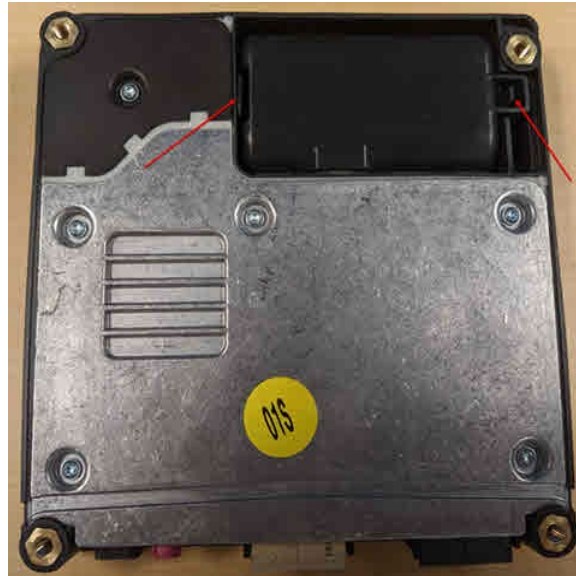

Figure 2. Backup battery compartment location.
2. Open the battery compartment of the telematics control module, J949 (address word 0075), and disconnect the backup battery (Figures 2 - 3).